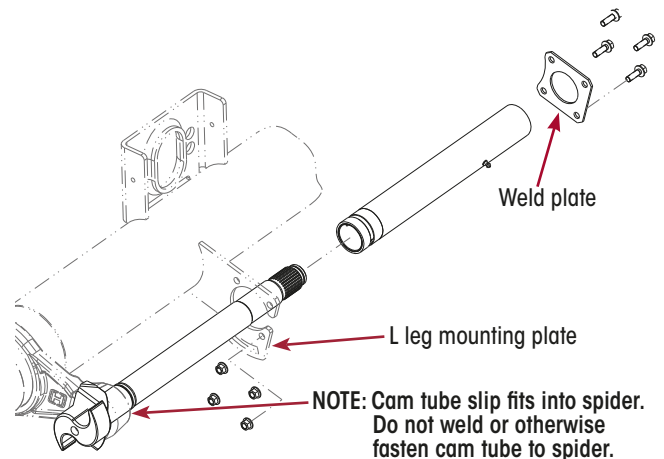

Figure 80: TRLAXLE Cam Tube Assembly Overview
1. Slide the new cam tube assembly (machined end first), from the inboard side of the axle, through the L-bracket and into the spider. The machined end should slip completely into the spider boss, but not press fit. Refer Figure 80.